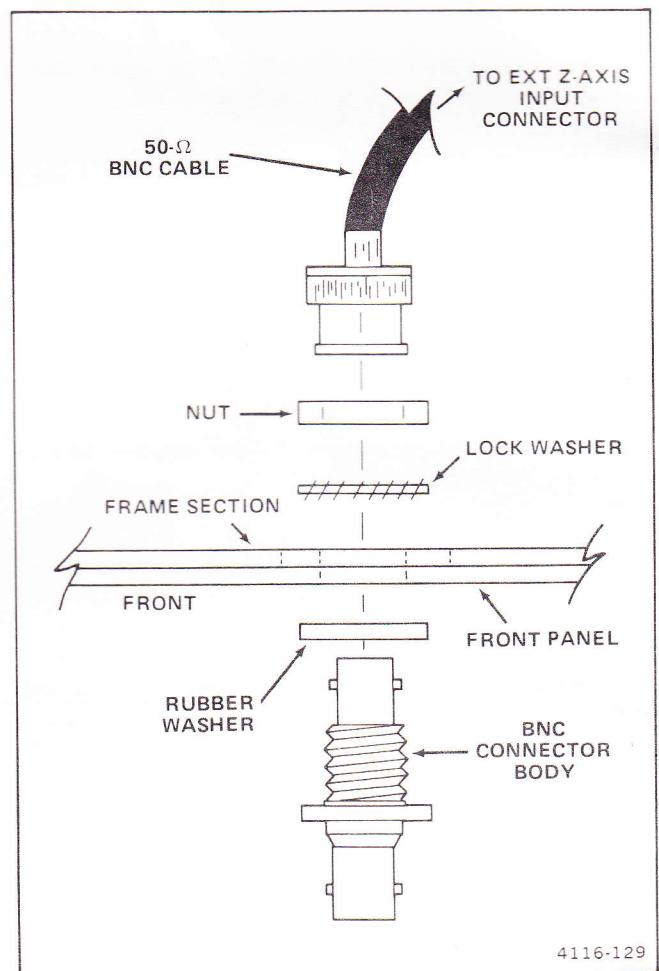

Figure 2. Installing the optional BNC connector(s).
1. Remove the plastic plug (6) from the desired mounting hole on the rack adapter's front panel and install the BNC-to-BNC adapter (see Figure 2).
2. Install the nylon channel grommet (28) into the appropriate hole in the rear support channel.
4. Peel the backing from the appropriate identity marker (5) and install it above the front-panel connector.